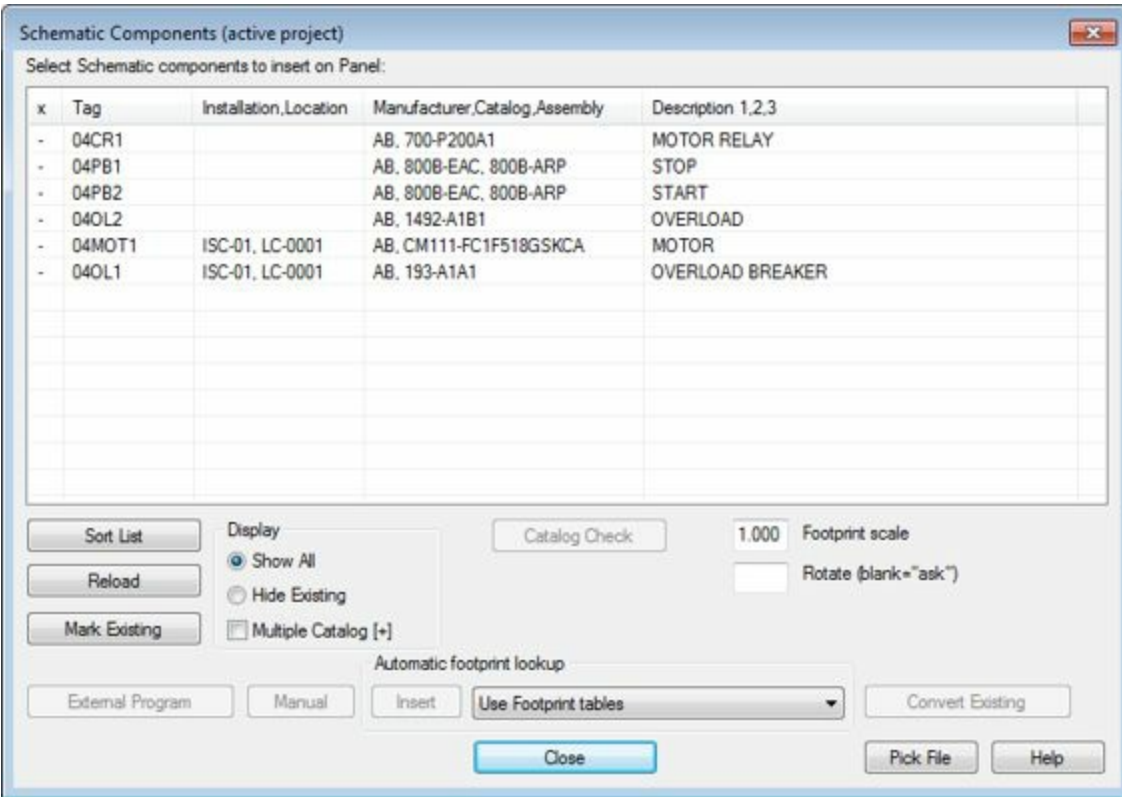

Figure-57. Schematic Components active projects dialog box
- Click on the **OK** button. The **Schematic Components (active project)** dialog box will be displayed; refer to Figure-57.